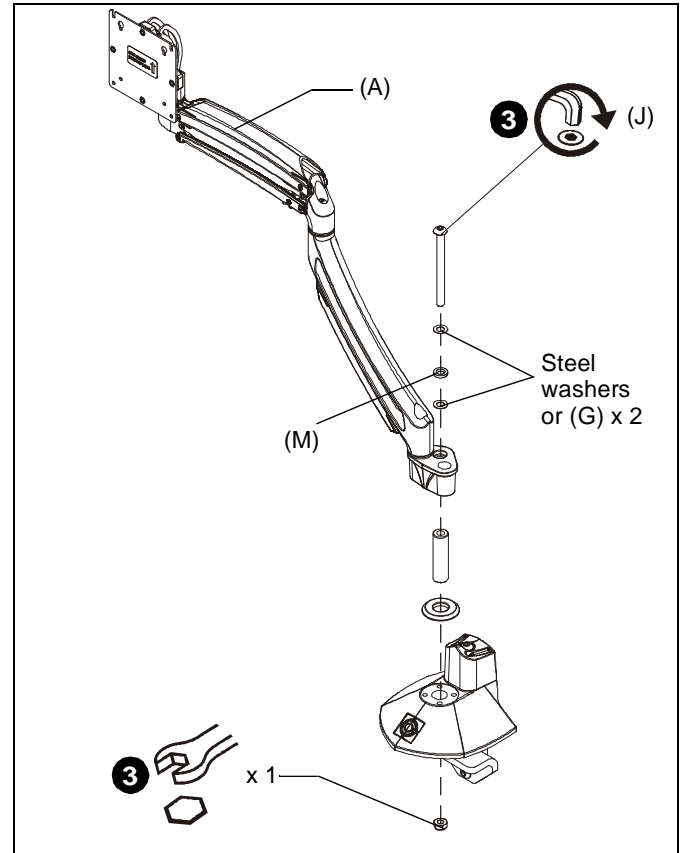

Figure 2
- Attach single monitor arm assembly (A) to original mount base using one 5/16-18 x 3 1/8" button head cap screw (J), steel washers from existing mount, 1/2" spacer (M) and pivot pin, pivot pin spacer and 5/16" lock nut all from existing mount. (See Figure 2)